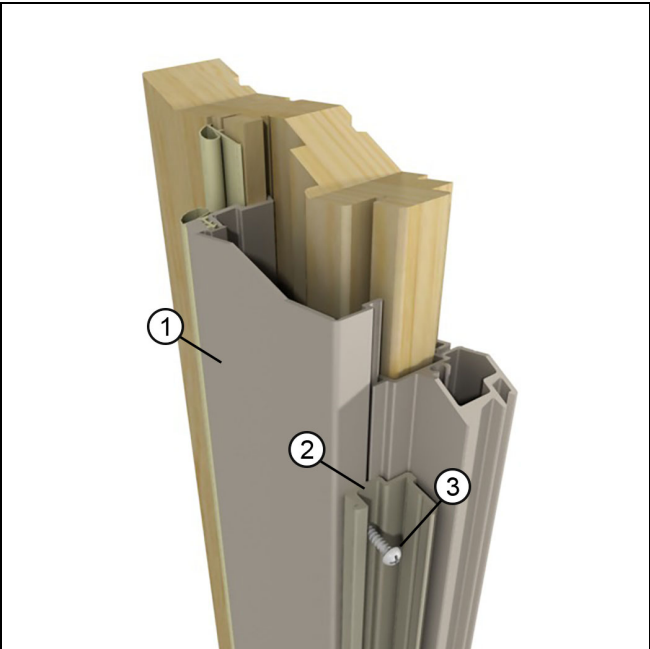

Figure 6
- 2. Make sure the jamb adapter is seated and tight against the jamb and part stop. Using the pre-drilled holes in the adapter as a guide, drill 1/16" (2) pilot holes. Use the #4 x 3/4" self tapping pan head screws to fasten the jamb adapter to the part stop through the pre-drilled holes in the jamb adapter. See Figure 6.